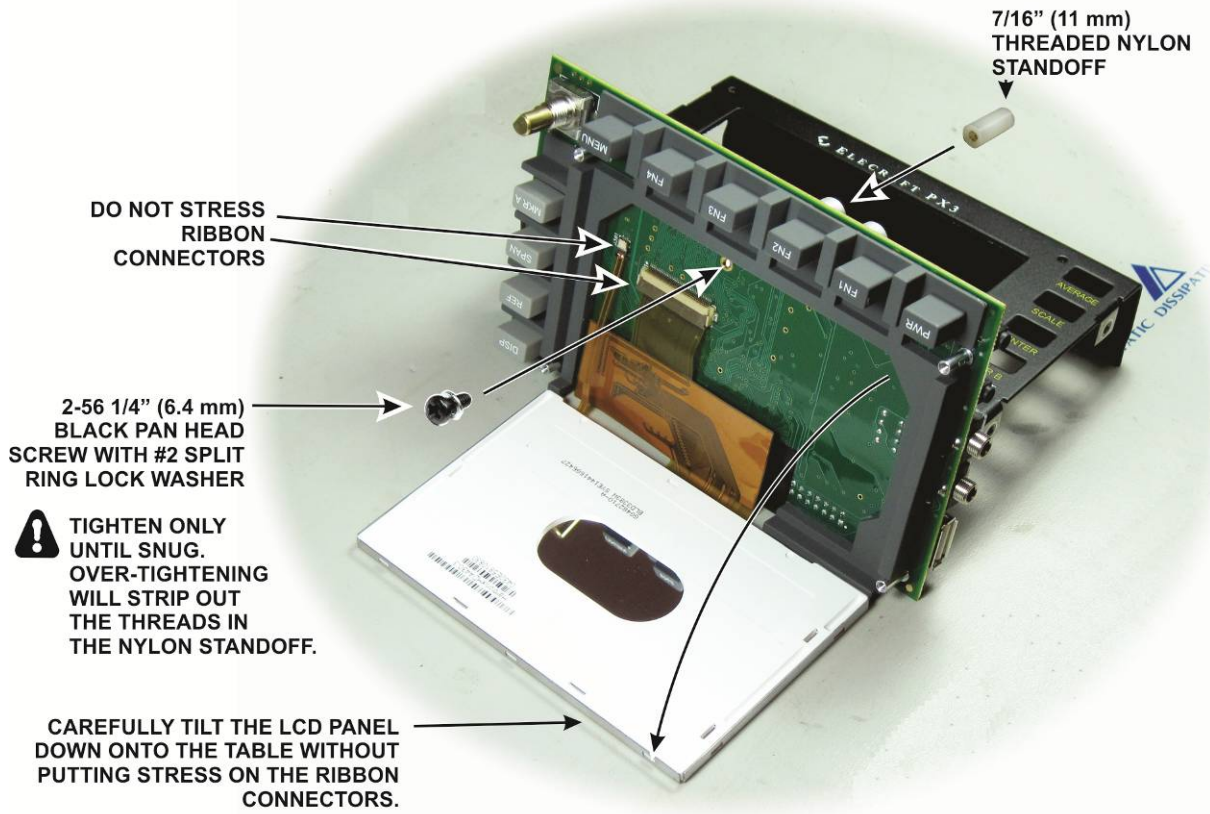
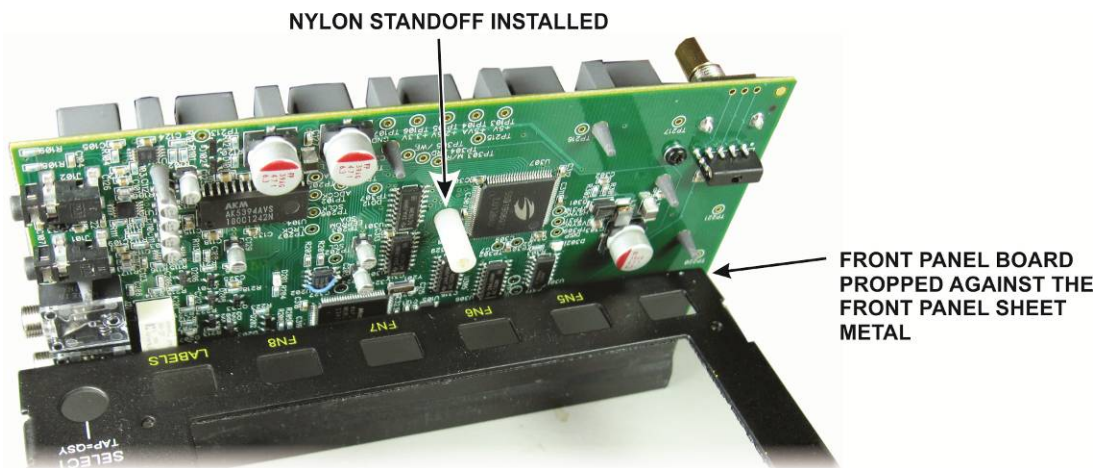

Figure 27. Installing the Nylon Standoff on the Front Panel PC Board.
Figure 28. Nylon Standoff Installed.
□ Locate the front panel. On the inside are four small pieces of conductive tape covering screw holes at each corner of the large opening for the LCD (see Figure 27). **Do not remove this tape!** It provides an essential ground for the LCD when the front panel board is mounted. Use a sharp knife point or other tool to open the tape over each screw hole. Work from the inside so you do not push the tape away from the panel. This is needed to mount the front panel board later, but first you will need to prepare the front panel board for installation in the next few steps.
□ Place the front panel face up on your work table. Carefully remove the rubber band holding the LCD in place and prop the front panel board up on its **top** edge against your work table. Install the threaded nylon standoff on the board as shown in Figure 27. Tighten only until the standoff is snug. Do not over-tighten or you will strip the threads in the standoff. The installed standoff is shown Figure 28, If one of the ribbon cables does come loose, see *Replacing the LCD* on page 54.